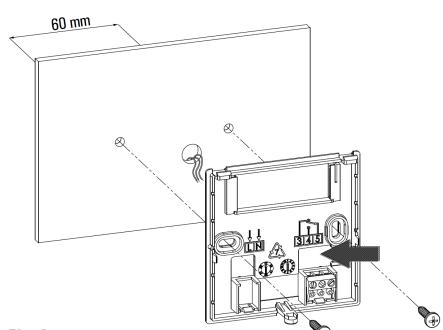

Fig. 4
- Fix the base directly on a wall or on 2-modules wiring boxes through the two screws seats with 60 mm wheelbase paying attention to push the cables through the hole as shown in Fig. 4.